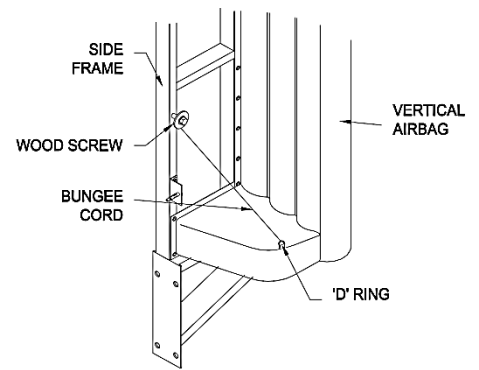

FIG. 21
- d. **Attach Bottom Bag Bungee Cord Assembly** to side frame using wood screw (Figure 21).